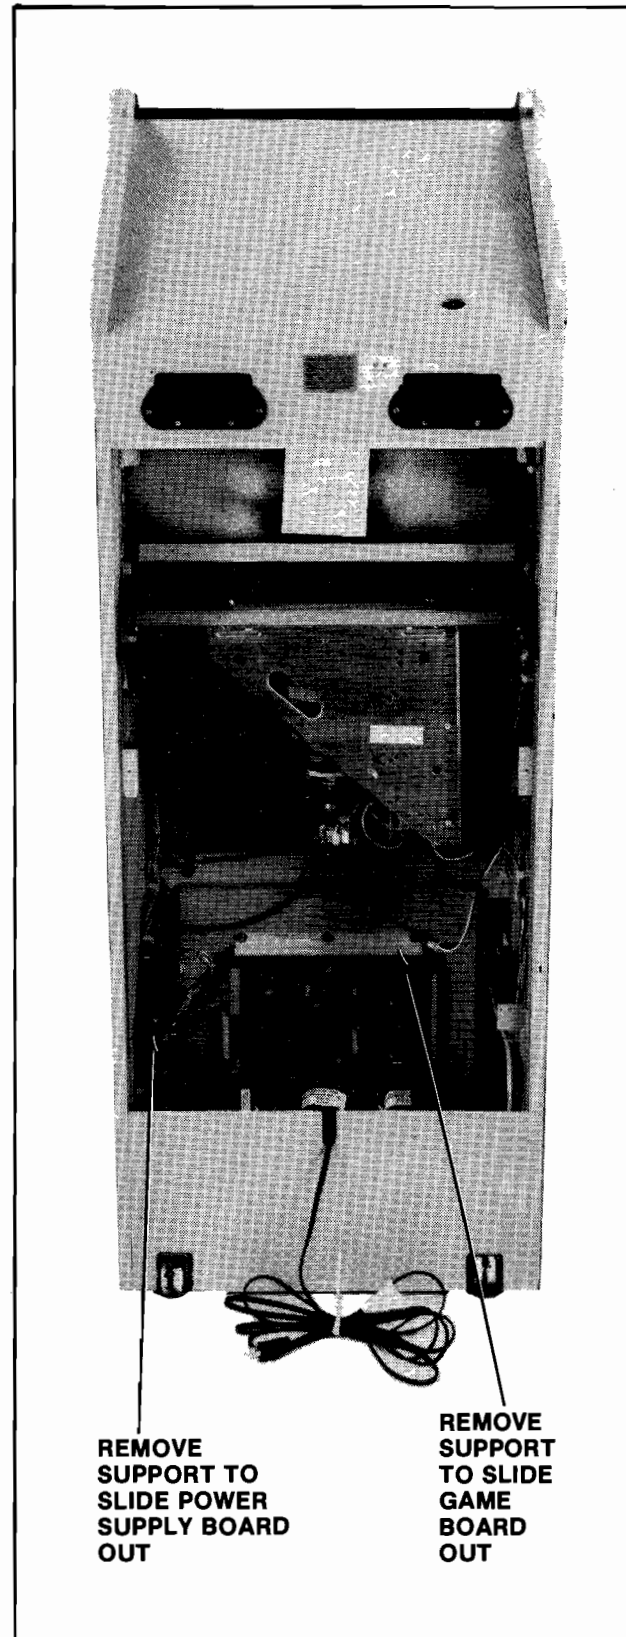

Figure 2-19 Removing P.C.B.'s - Upright
**2.8.1 UPRIGHT MODEL:** (See Figure 2-19)
- Disconnect the power supply board from all its cabling, remove the P.C.B. supports indicated in Figure 2-19, and slide it out the back of the cabinet.